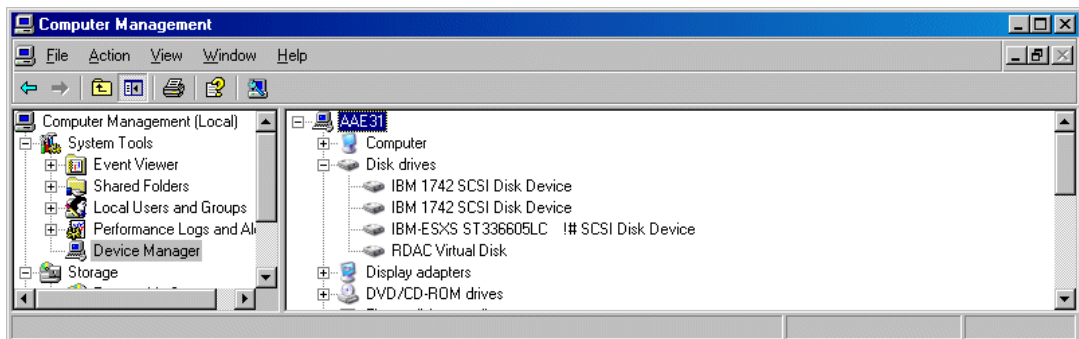

Figure 10-7 Windows device status before FlashCopy
3. Because the FASTt is connected to an Intel server with two host bus adapters; Windows computer management utility shows (Device Manager) two 1742 SCSI Disk devices and one RDAC Virtual disk. See Figure 10-7 on page 327.